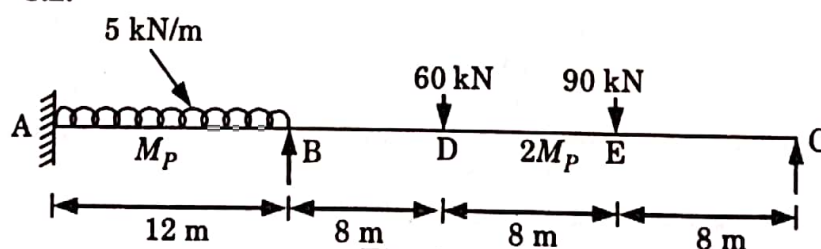

Fig. 14.
- b. A continuous beam ABC is loaded as shown in Fig. 14, determine the required plastic moment. If the load factor is 3.2.